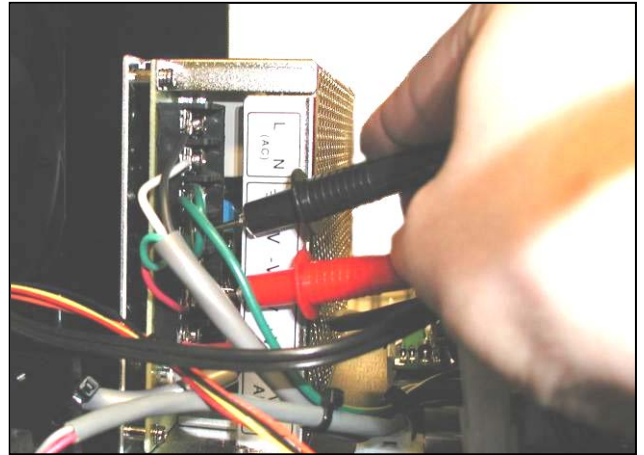

Figure 3-26. Probing “V-“ and “V+”
13. Set your DVOM to a range capable of measuring 24 VDC. Probe between the “V-“and “V+” contacts on the Power Supply (Figure 3-26).